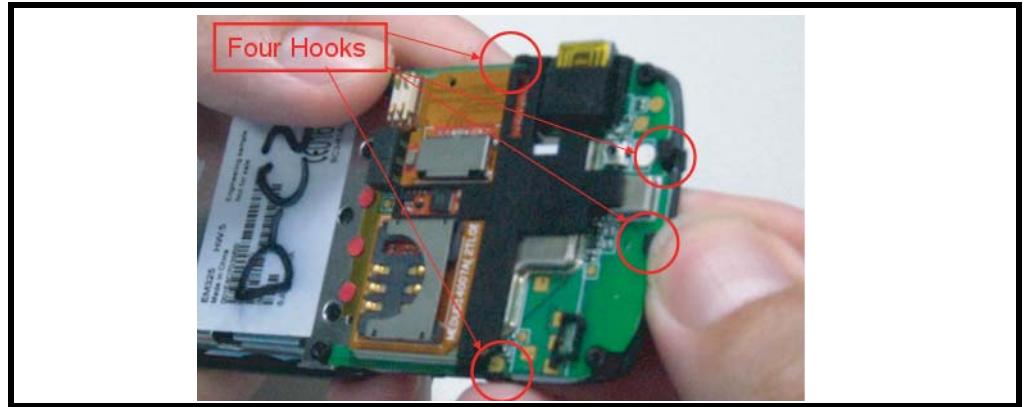

Figure 12. Removing the Main PCBA
2. Release the 4 hooks as indicate in the Figure 12.